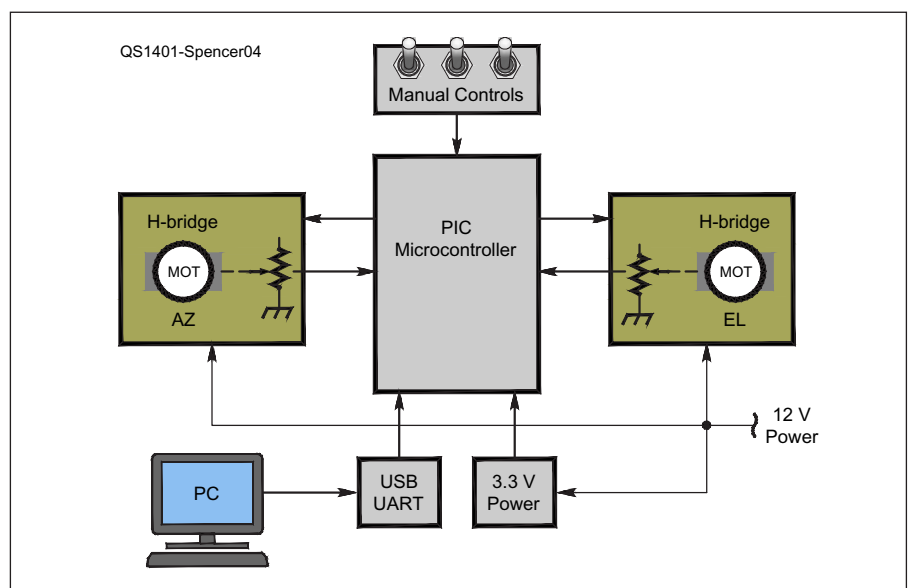
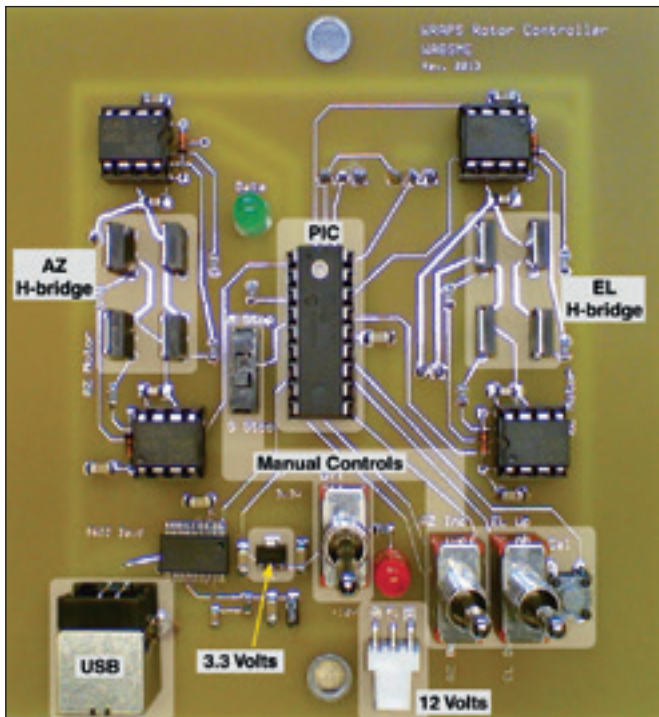

Figure 4 — Block diagram of the WRAPS rotator system.
Figure 5 — A completed WRAPS printed circuit board. [Graphic courtesy Mark Spencer, WA8SME]
Figure 4 shows a block diagram of the WRAPS circuitry. The completed circuit board is shown in Figure 5. The heart of
- Receives positioning commands from the satellite tracking program. [Which runs on the personal computer (PC) in Figure 4. — Ed.]
- Commands the motors ["M" in Figure 4 — *Ed.*] to turn in the proper direction.